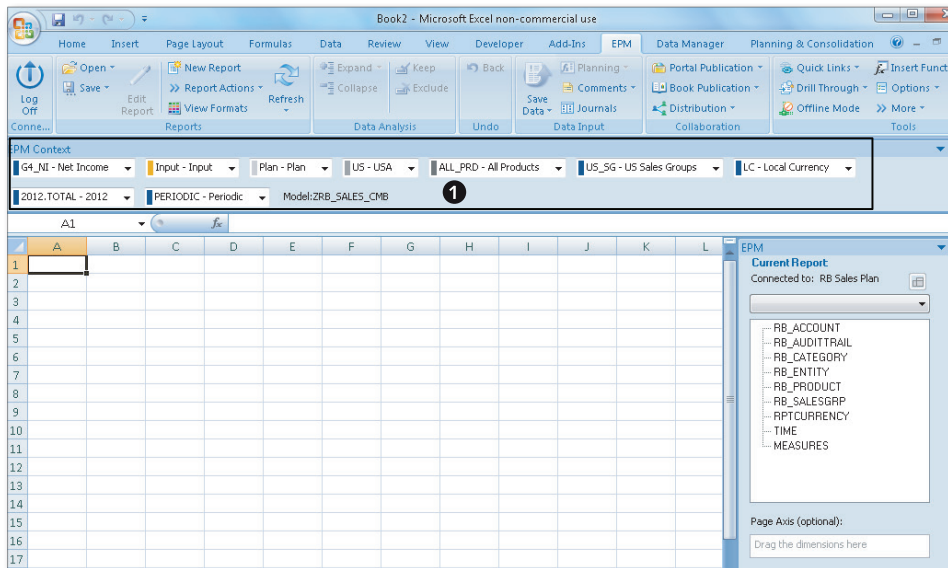

Figure 5.7 EPM Context Pane
The EPM add-in tab is organized into distinct command groups. Every command group includes commands associated with that group (see the top of Figure 5.7). The following command groups are included in the add-in interface:
The EPM CONTEXT pane in the EPM tab allows users to select the data to display in a report. If you want to make member selections for a dimension, use the drop-down box to select a member value. By default, the members selected in the EPM CONTEXT pane are used to display information in a report (Figure 5.7, ❶). In the SAP BPC 7.5 version, the EPM CONTEXT pane was referred to as Current View (CV).